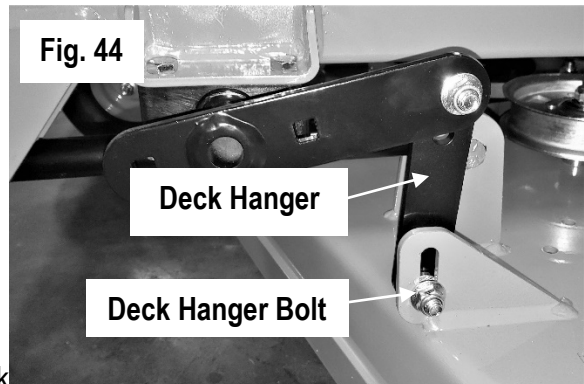

Fig. 44
4. Using a pair of $\frac{9}{16}$ " wrenches, loosen all deck hanger bolts on the top of the deck. These are the lower bolts in the slots of the deck as shown in Fig. 44. Do not loosen the upper bolts that attach the deck hangers to the actuator lift bars.